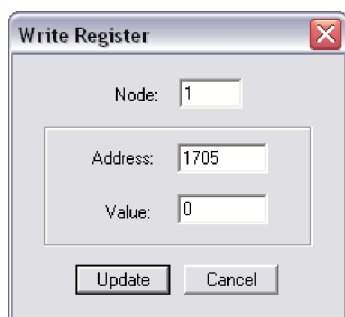

Fig. 305: Write register - enable the resetting procedure via RS-232/RS-485
- ⇒ Fig. 305 shows how the parameter is enabled using the ModScan32 Software. The value must be set to "1" to enable the parameter.